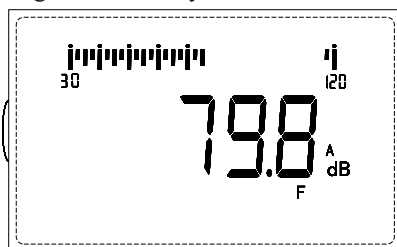

Fig. 5
- 1) Press the **WEIGHTING** key to make the display shows 'C', and the value displayed on the LCD is the measured value of 'C' sound level. Press the weighting key to make the display shows 'Lin', and the value displayed on the LCD is the measured value of 'linear sound level'. See Fig. 5.
- 3) There are 3 kinds of time weightings, Fast (F), Slow (S) and Impulse (I). Generally Fast 'F' is used. If the reading changes greatly, Slow 'S' can be used. Impulse (I) measurement is used for special requirements. As shown in Fig. 5.